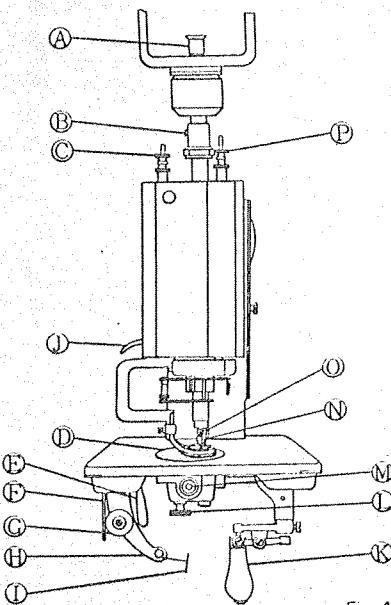

Fig.4
6. TO REMOVE, REPLACE AND SET NEEDLE AND NIPPLE (Fig. 4)
10. TO REGULATE THE PRESSURE ON THE PRESSER FOOT (Fig. 4)
The pressure on the presser foot is regulated by the thumb screw ⑤, Fig. 4. To increase the pressure, turn the thumb screw over to the right or downward. To decrease the pressure, turn the thumb screw over to the left or upward.
15. TO SET THE LOOPER (Figs. 4 & 12)
Turn the machine back on its hinges and turn handle ⑩, Fig. 12 and screw ⑪, Fig. 4 to the front. Loosen set screw ⑫, Fig. 12 of the operating worm gear ⑬, and turn the gear slightly, until the notch in the looper is in its correct position as instructed above. After having set the worm gear flush with the end of the looper shaft ⑭, tighten the set screw ⑫.
18. RAY STITCH (Figs. 4 & 7)
(1) For loosening thread (Fig. 4)
loosen the screw ②, Fig. 4 and lift the needle bar ③ so that the thread loosens.
19. PILE OR MOSS STITCH (Figs. 4, 10 & 12)
The raised pile or moss stitch is produced by adjusting the machine so that it will drop the stitches in loose loops on the materials. To accomplish this, turn handle ⑬, Fig. 4 to the front, loosen the screw ⑭ and turn the needle bar ⑮ so that the hook of the needle will point directly to the back of the machine, then tighten the screw ⑭. Reach under the bed of the machine with the left hand, grasp the knurled end ⑯, Fig. 12 of the operating worm gear ⑰ draw the worm gear to the left and while holding it turn handle ⑱ around to the right directly to the back, then release the knurled end of the gear.